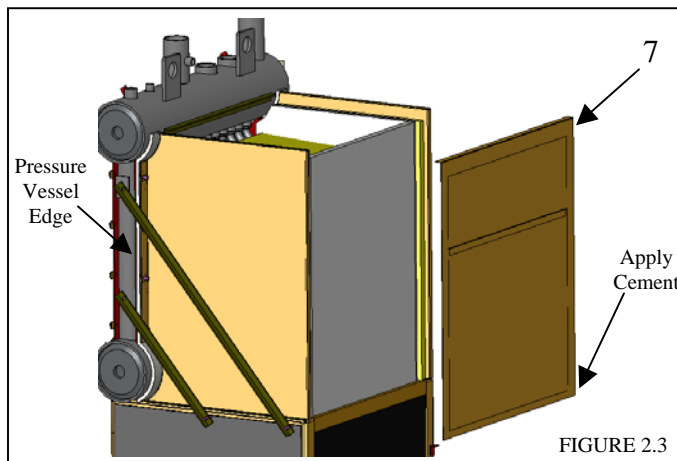

FIGURE 2.3
- Apply furnace cement to bottom edge of the flue collector side panel (Item #7). Place panel in place. See Fig. 2.3.